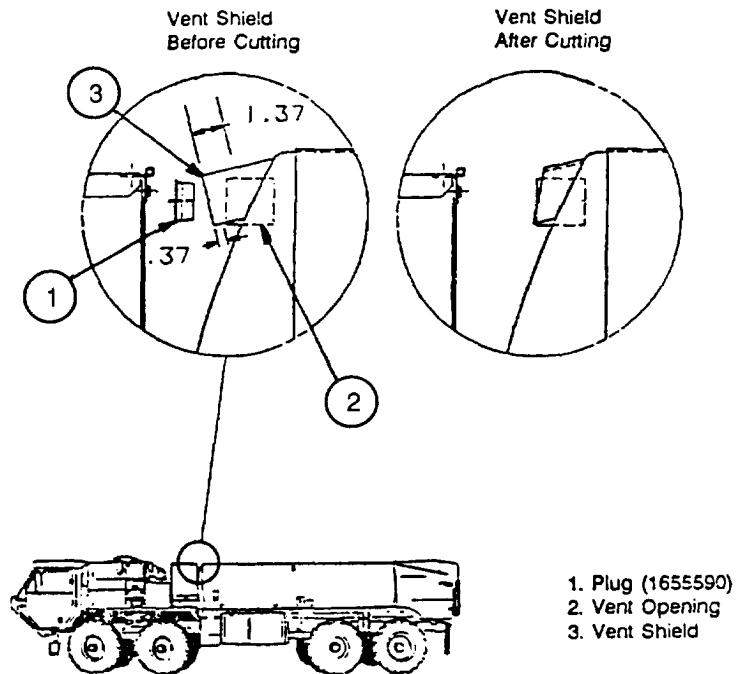

Figure 1
- (1) Insert plug (1) into vent opening (2).
- (2) Mark vent shield (3) as shown in Figure 1.